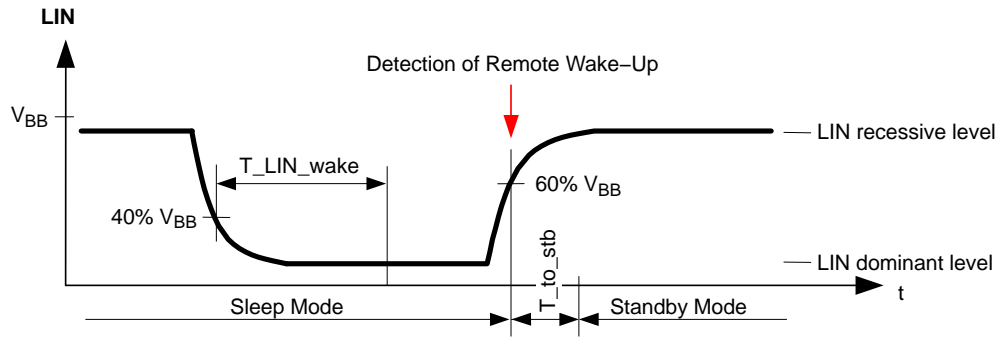

Figure 5. Remote (LIN) Wake-up Detection
- Remote (or LIN) wake-up – when LIN bus is externally driven dominant during longer than T_{LIN_wake} and a rising edge on LIN occurs afterwards – see Figure 5.